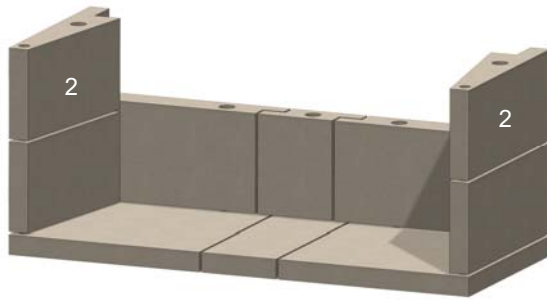

Figure 9. Middle Sidewalls
C. Install the second level sidewalls (2), followed by the middle back plate pieces (4A, 4B, 4C). See Figures 9 and 10.